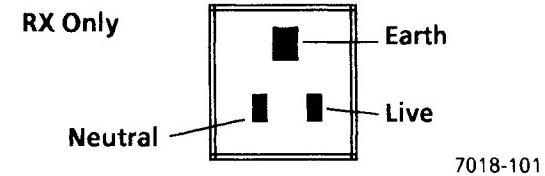

Figure 2. RX UK Wall Outlet
- RX, UK Only (Figure 2). Perform the following: